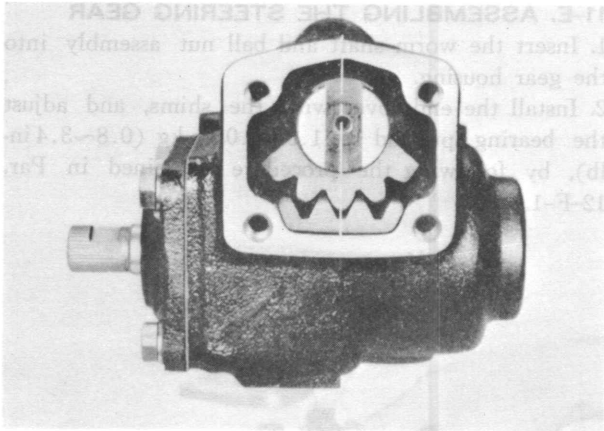

Fig. 11-7 Align center of rack and sector gear
4. Turn the worm shaft and place the rack in the center position of the worm. Insert the sector shaft and adjusting screw into the gear housing, being careful not to damage the oil seal, and ensuring that the center of the sector gear is aligned with the center of the rack as shown in Fig. 11-7.